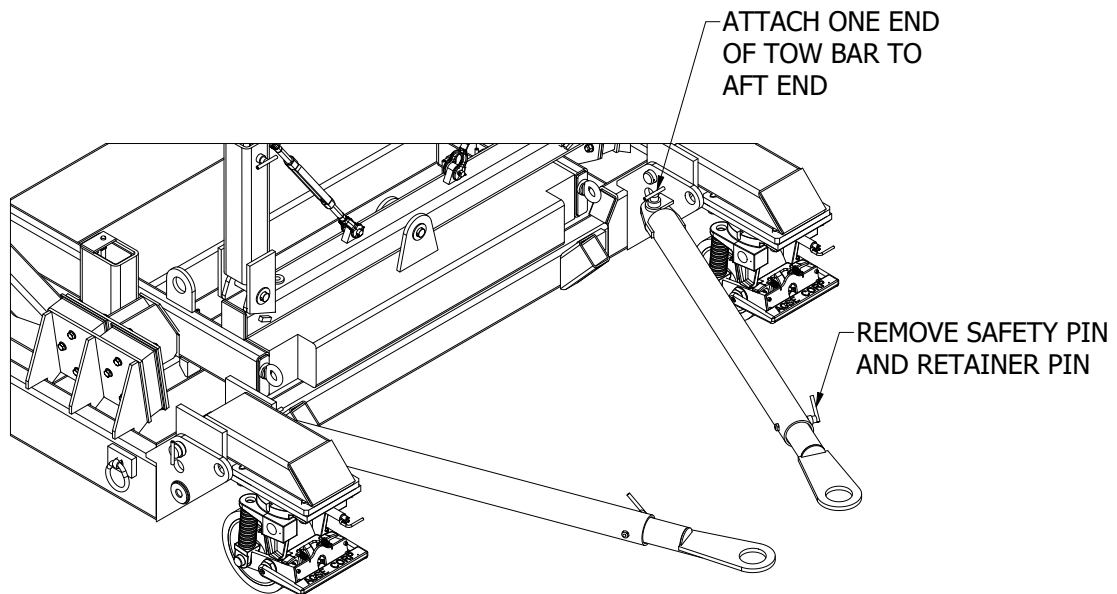

Figure 5.3-3
- 3). Move two (2) tow bars to the AFT end of the stand.
- 4). Attach the tow bars to the AFT end of the base (Figure 5.3-3).